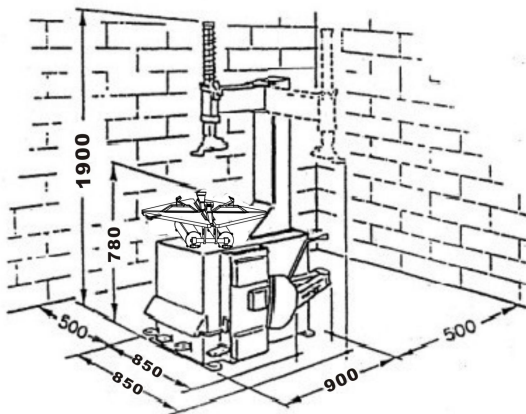

Fig4
***For safety and proper operation, keep the machine at least 0.5M away from any wall (Fig4)***